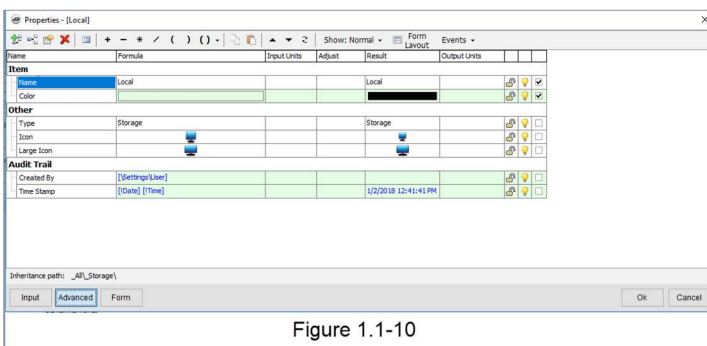

Figure 10
13. Clicking on **Advanced** opens the **Advanced Properties** window (Figure 10), which will tell you exactly where your storage is physically located on the computer. If you have a network set up, then a property will be set up called **network.path**. Use the **item.fullpathproperty** within the API. Use the full path if you need to copy files to that network location.